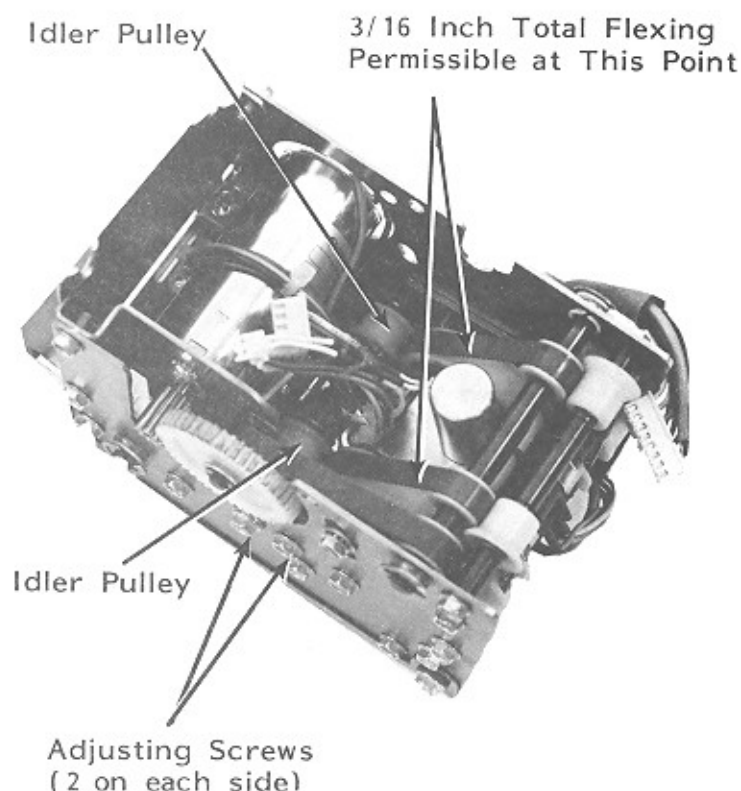

Figure 4-3. Lower Belt Adjustment
Adjust the Lower Belt tension as follows: (See Figure 4-3.)
1. Loosen the four hex-head screws holding the ends of the Idler Pulley Shaft and the take-up brackets (Shown in Figure 4-3.).